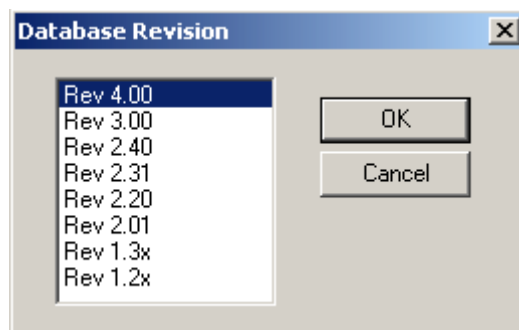
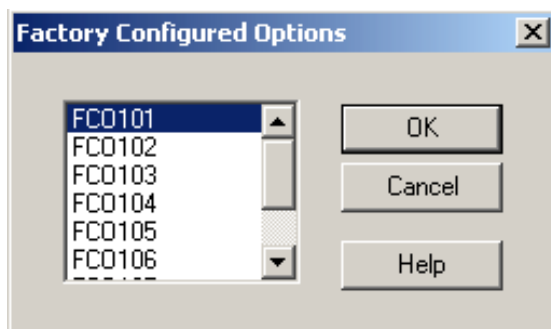

Figure 2-2 Database Revision
Figure 2-5 Factory Configured Option dialog
2. Select the database revision number (i.e. the firmware revision number of the controller to which this configuration will be downloaded). See Figure 2-2.
A Factory Configured Option (FCO) is a controller configuration file that has preconfigured function block loops. The desired FCO is selected from the list box in Figure 2-5. Each FCO is described and diagrammed in the controller User Manual. An FCO is often used as a starting point to develop a needed configuration.
The Databases Revision dialog display opens; see Figure 2-2. Select the revision level of the firmware in the controller to which this configuration will be downloaded. After selecting the revision level the Factory Configured Options dialog will open. See Figure 2-5.